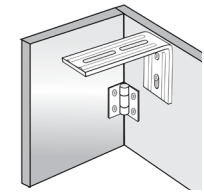

Figure 7: Box Valance L-Bracket
1. Install L-brackets to box valance [Figure 7]. Valances should have L-brackets installed on either side and any additional brackets evenly spaced for support.